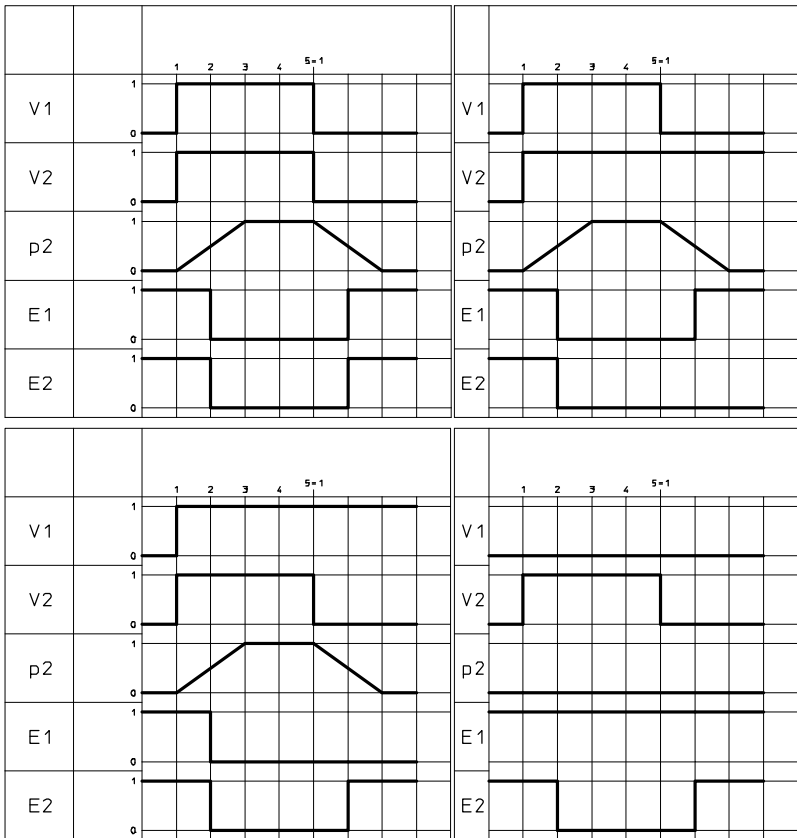
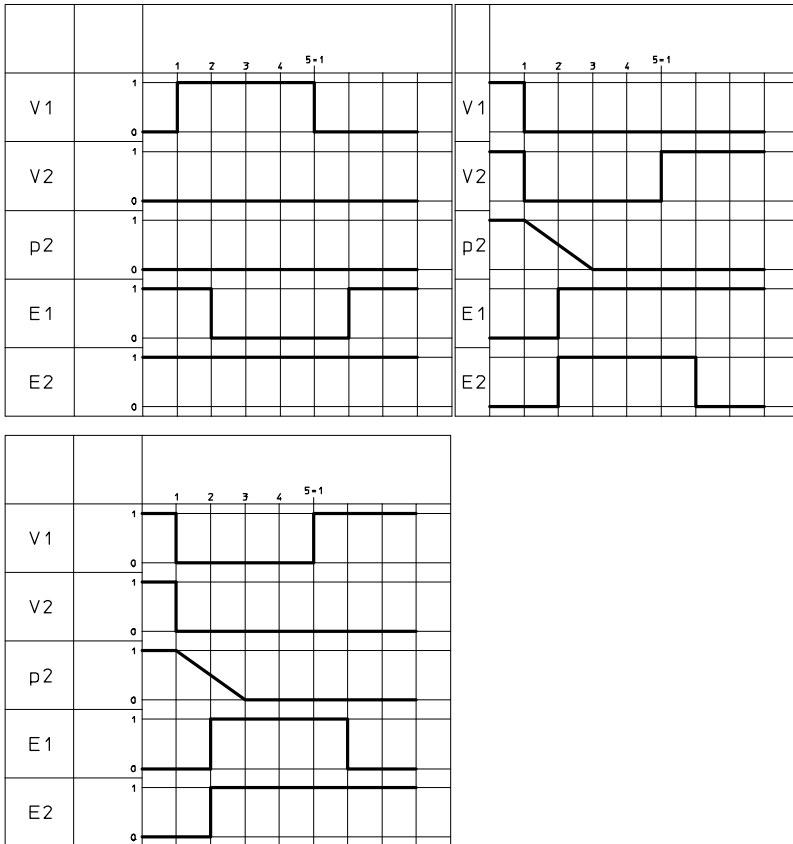

Fig. 8 Function test, steps 1 to 4
Fig. 9 Function test, steps 5 to 7
3. To check all possible switching position combinations of the two 5/2-way solenoid valves V1 and V2 of the control block: Evaluate signals of the proximity sensors E1 and E2 (here: PNP proximity sensors) by using the following step sequences (→ Fig. 8 ... Fig. 9).